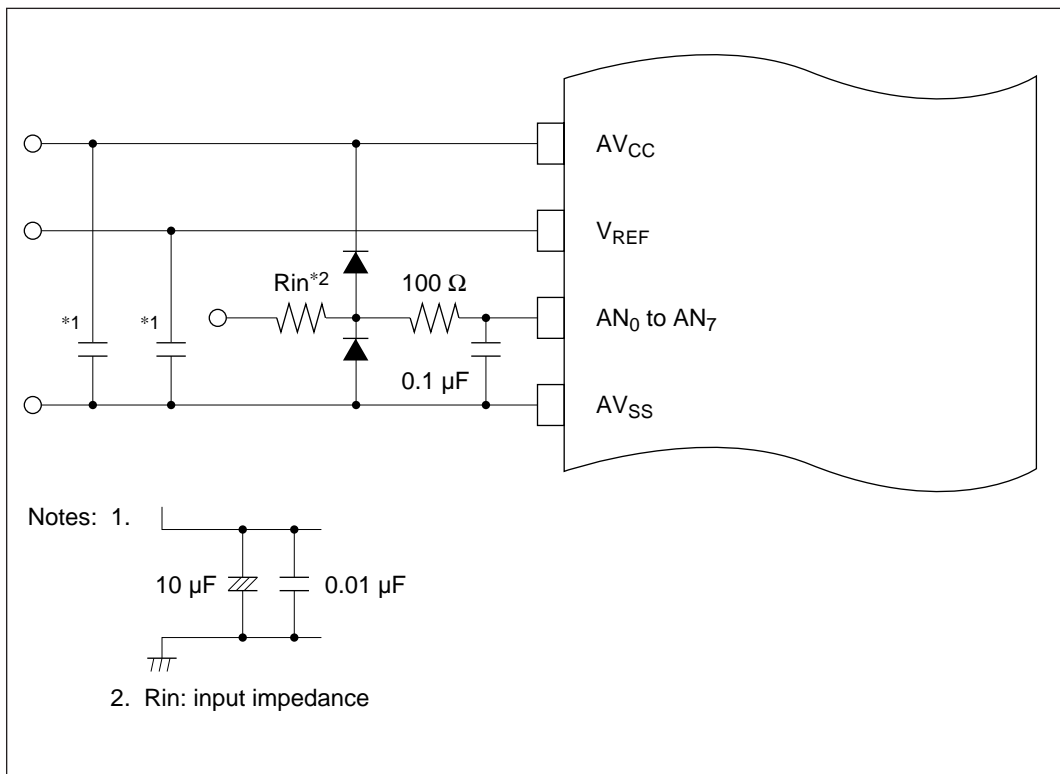

Figure 14-7 Example of Analog Input Protection Circuit
5. **Note on Noise:** To prevent damage from surges and other abnormal voltages at the analog input pins (AN_0 to AN_7) and analog reference voltage pin (V_{REF}), connect a protection circuit like the one in figure 14-7 between AV_{CC} and AV_{SS} . The bypass capacitors connected to AV_{CC} and V_{REF} and the filter capacitors connected to AN_0 to AN_7 must be connected to AV_{SS} . If filter capacitors like the ones in figure 14-7 are connected, the voltage values input to the analog input pins (AN_0 to AN_7) will be smoothed, which may give rise to error. Error can also occur if A/D conversion is frequently performed in scan mode so that the current that charges and discharges the capacitor in the sample-and-hold circuit of the A/D converter becomes greater than that input to the analog input pins via input impedance R_{in} . The circuit constants should therefore be selected carefully.